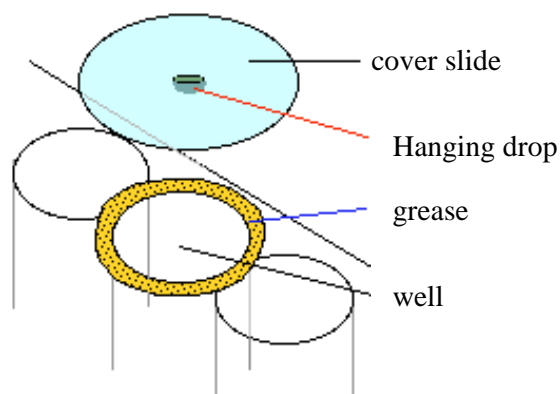

figure 1: well plate
1. Take three 24-Well plates (from Stratech, ICN Biomedicals, Costar, Falcon, Molecular Dimensions Ltd.). It is recommended that on each upper edge of the 24 wells should be put a thin film of grease. This ensures that the cover slide doesn't shift. Prepare fifty wells for one full screen of a protein. See figure 1.
3. $2\text{ }\mu\text{l}$ of sample are put into the middle of a clean, siliconized 22 mm (18 mm if you use Costar plate) diameter cover slide (Molecular Dimensions Ltd, Stratech). See figure 1. It is also possible to take a square cover slide.